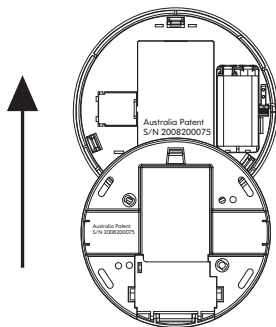

Figure 1: To remove smoke alarm
- 6.2.1 Separate Smoke Alarm from mounting base by sliding cover (in direction of arrow) with one hand on the back of the mounting base and one hand sliding Smoke Alarm(See Fig. 1).